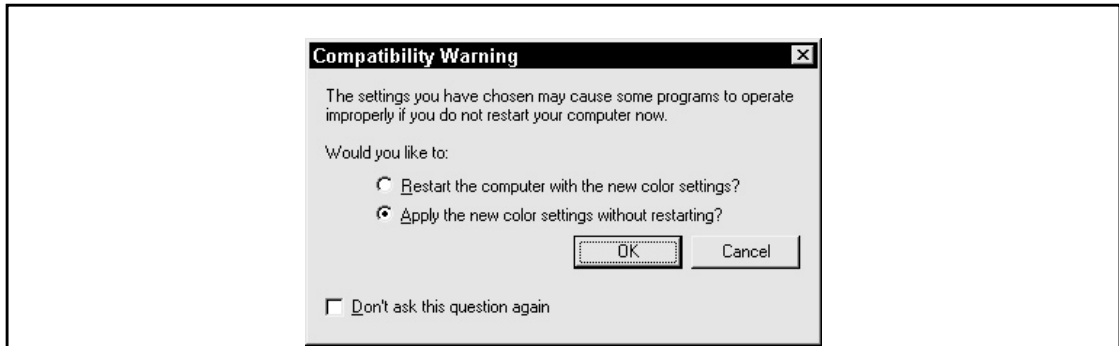

Figure 12-4. The Compatibility Warning box displays when you change the display settings
5. Click Apply to change the display settings. A Compatibility Warning box, as shown in Figure 12-4, will display asking you if you wish to restart the PC with the new colors or apply them without a restart (which should be the default). Choose Apply the New Color Settings Without Restarting? and click OK. Another warning box will display telling you that it may take a few seconds to install the new settings. Click OK.